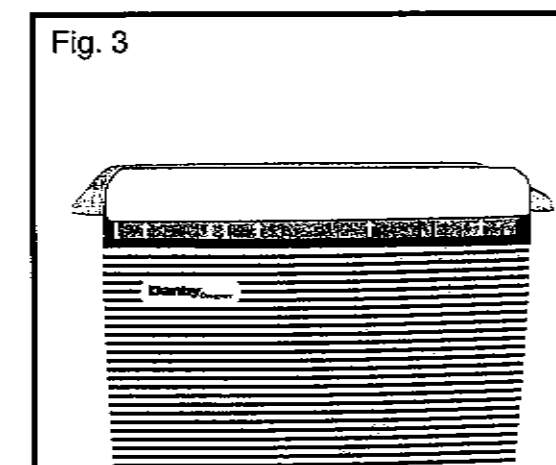

Fig. 3
1. Pull upward (using fingers) where the filter frame meets the top of the front grill (See Fig. 3)